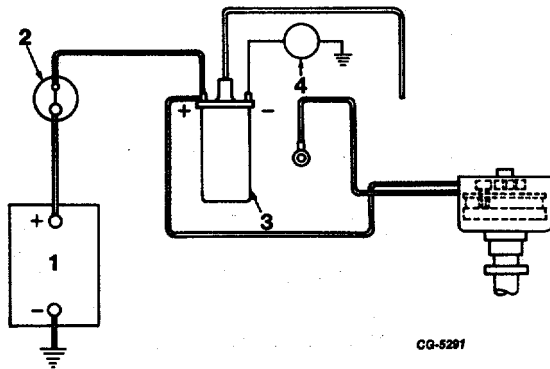

Fig. 54 Testing With Brown Wire Removed
Disconnect voltmeter. Remove brown wire from coil negative (-) terminal. Reconnect voltmeter between coil negative (-) terminal and ground (Figure 54.). With ignition switch "on", observe voltmeter. If voltage reading is still 0 to 5 volts, coil is faulty and must be replaced.
7. Test control unit operation. Voltmeter should be connected between coil negative (-) terminal and ground (Figure 54).